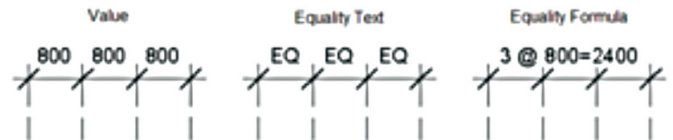

Figure 15
- Dimension Equality Text (and Formula). See Figure 15.